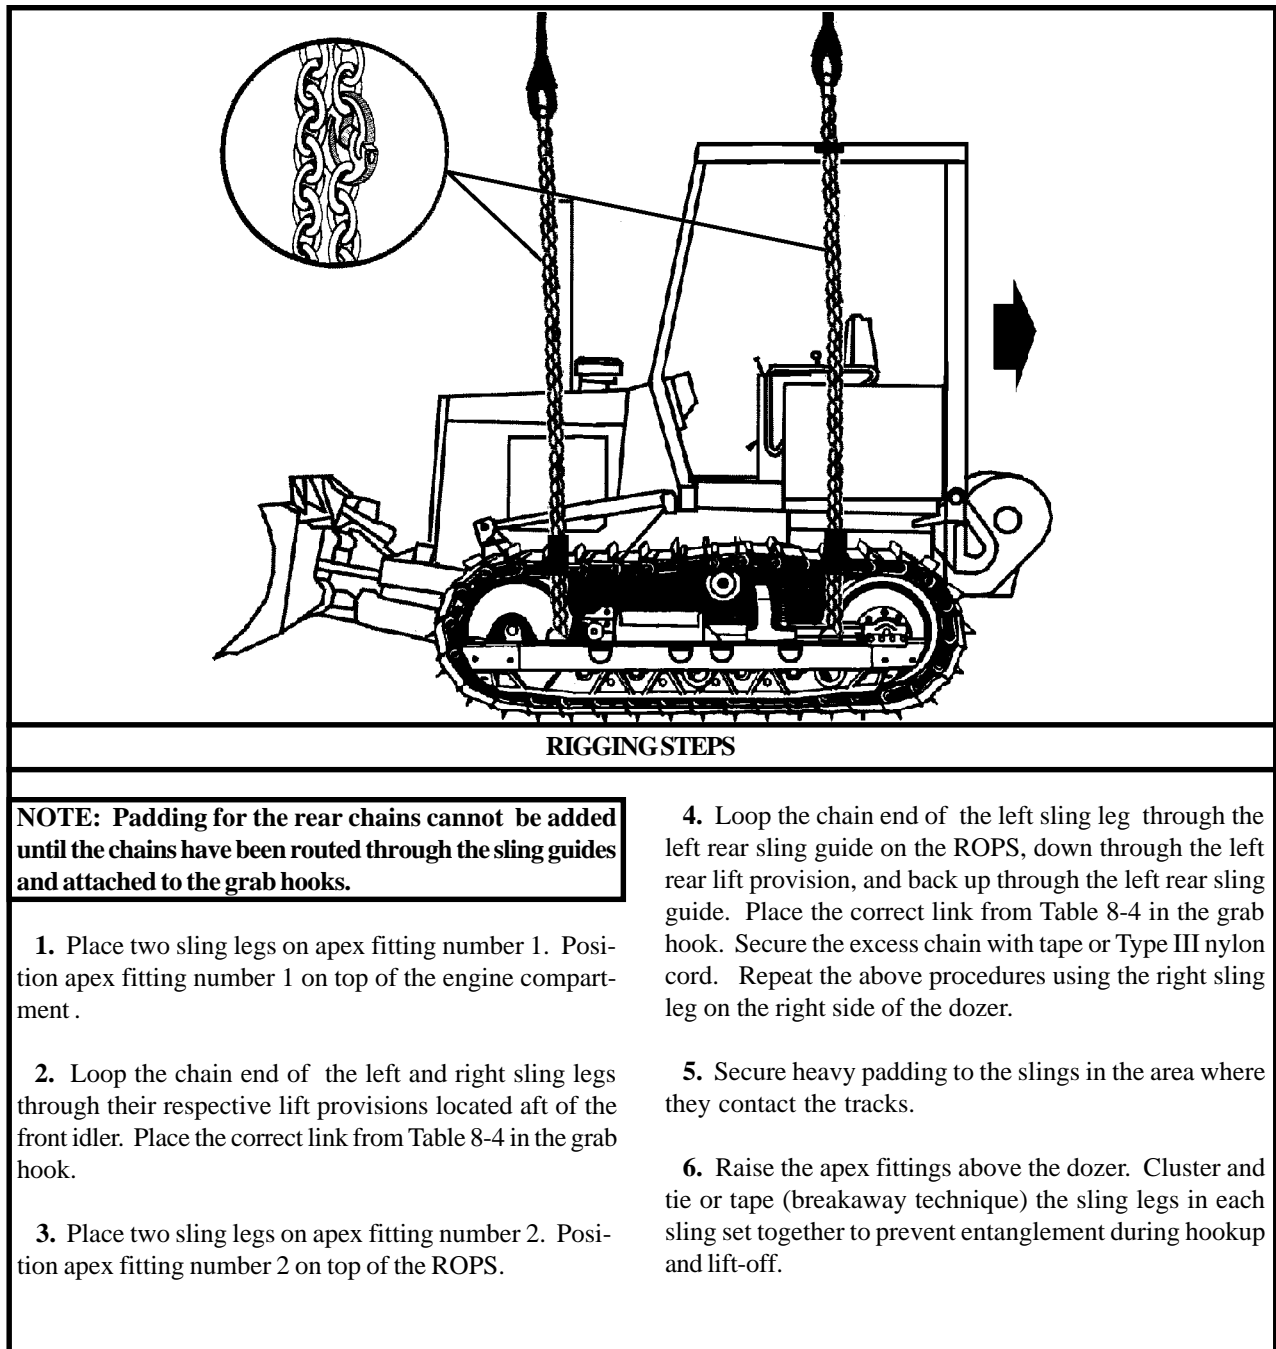

Figure 8-4. Tractor (Dozer), Full-Track, Type III, JD450G
(2) **Rigging.** Rig the load according to the steps in Figure 8-4.